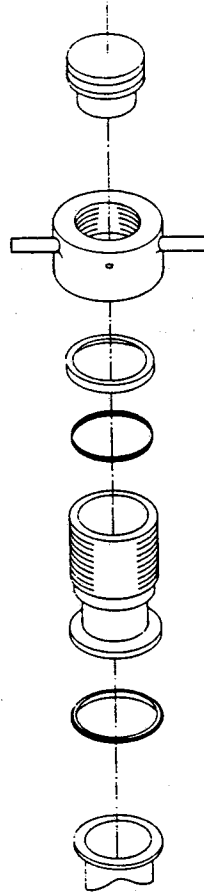

Figure 5-8. Exploded View of Test Port
- 4 Unscrew valve actuator (5) using commercial spanner.
- 5 Separate the valve spring (6) and valve seat (7).
- 6 Remove valve body O-ring (8). **DO NOT USE A SHARP METAL TOOL;** it may damage the sealing surface.
- 9 Remove the KF clamp at the test port. Disassemble it as shown in Figure 5-8. Discard all O-rings.
- 10 Remove the test port thermocouple gauge (9) by gently twisting it while pulling the gauge body. Discard the O-ring (10) and save the washer (11).
- 11 Remove the gross leak nut (12) with a 9/16-inch open-end wrench. Remove the gross leak assembly (13) by pulling it gently. Discard the O-ring (14) and the gross leak rubber washer (15).